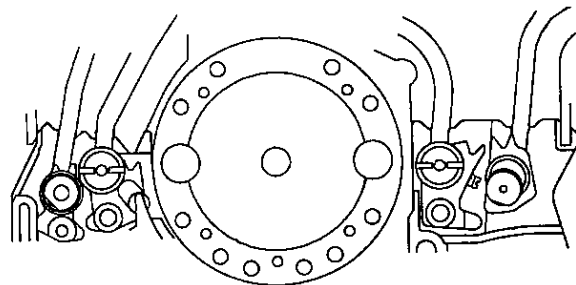

Figure 7-5-11 (a)
- 2) Referring to item 7-5-1, remove the cassette compartment ass'y.
- 3) Referring to item 7-5-2, remove the LED holding angle.
- 4) Referring to item 7-5-3, remove the real lock releasing angle.
- 5) Remove the washer (1), and remove the swing arm ass'y (2).
- 6) Remove the screw (3) (2 pcs.), and remove the SL guide angle (4).
- 7) Referring to item 7-5-7, remove the relay FPC retainer and relay FPC holder.
- 8) Load the slide chassis until the slide rail contacts the stopper (see Figure 7-5-11 (b)).